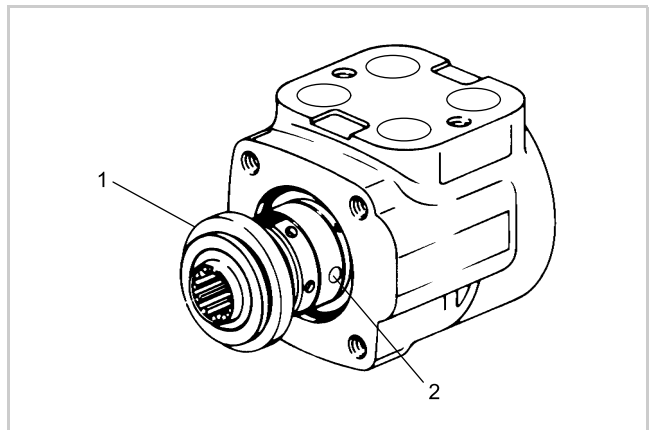

Fig. 34 (22648)
11. Rotate the spool and sleeve until the pin is horizontal. Push the spool and sleeve assembly forward with your thumbs just far enough to free the gland bushing from the housing, remove the bushing. Refer to Figure 34.